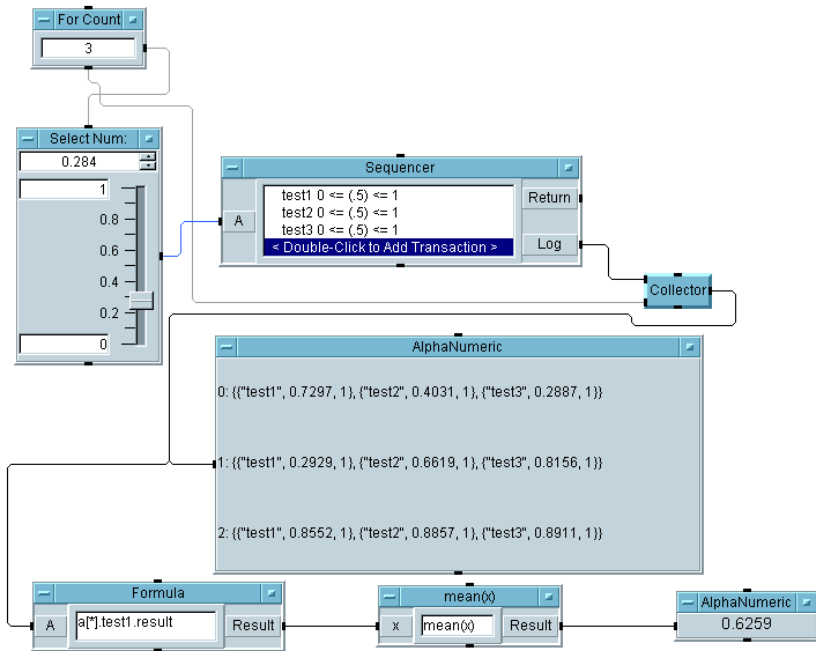

Figure 9-15. Analyzing Several Runs of Sequencer Data
5. Run the program. It should look like Figure 9-15.